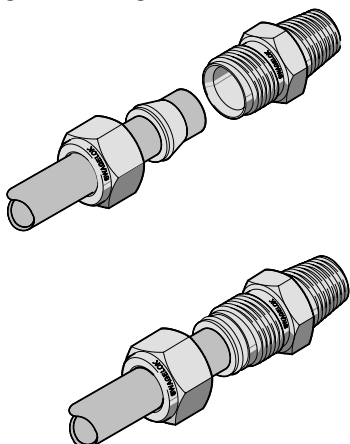

Fig. 6 Installing Preswaged Assembly into Fitting Body
13. Install the preswaged assembly into the fitting body. Turn the nut onto the fitting body until it is finger-tight. See Fig. 6.